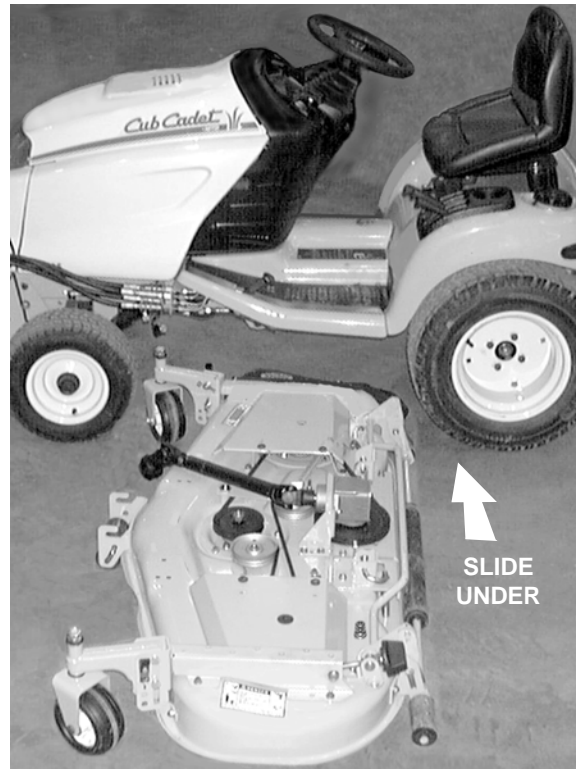

Figure 8
1. Place the tractor and mower deck on a firm and level surface. Position the mower deck on the **left** side of the tractor with the front of the deck toward the front of the tractor (See Figure 8)